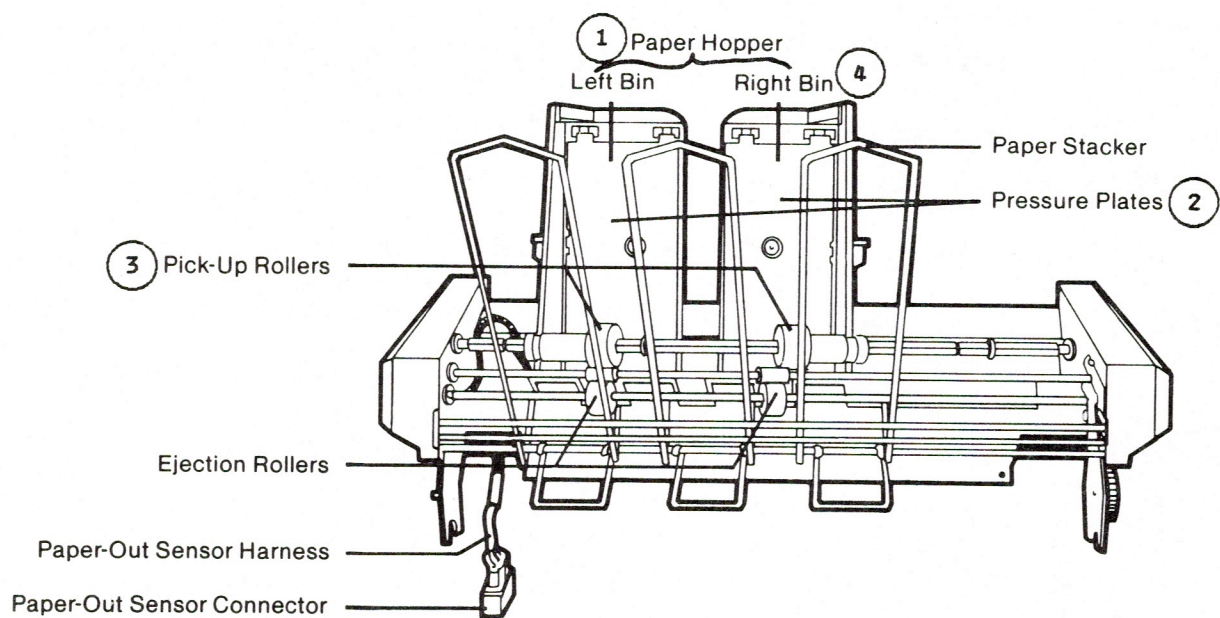

FIGURE 4
1. With power off the DWP, remove paper from the Sheet Feeder hopper (Figure 4, #1).
2. Push the pressure plates (Figure 4, #2) back until they lock.
2. Push the right paper bin (Figure 4, #4) as far right as possible, to give yourself room for the next steps.